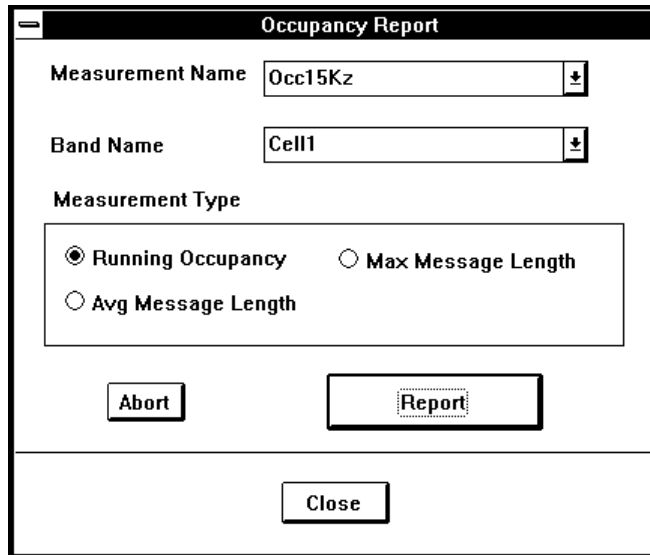

Figure 8-6: Occupancy Report Dialog Box
1. Select Occupancy Measurements from the Reports List to open the Occupancy Report dialog box (Figure 8-6).